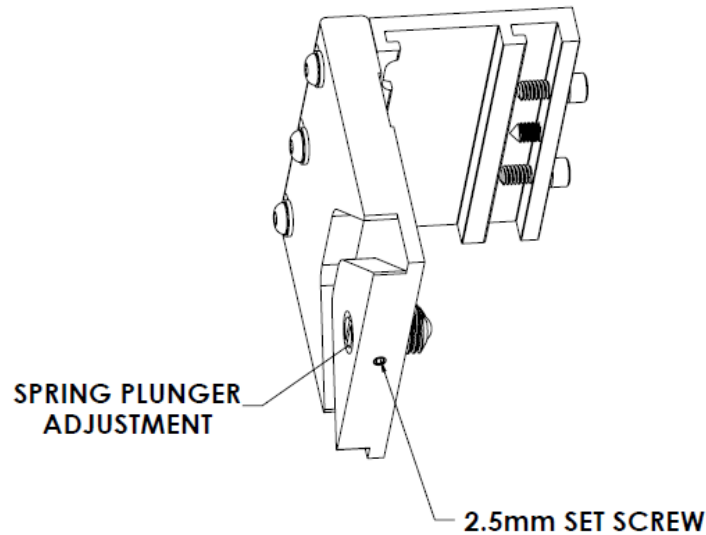

Figure 101: ***Adjust the Threaded Spring Plunger***
- To adjust the threaded spring plunger position, loosen the 2.5mm set screw on the bottom side of the parallel track TGB (Figure 101). The threaded spring plunger can then be adjusted towards or away from the transition gate gantry plate. Lock the plunger back into place by tightening the 2.5mm set screw.